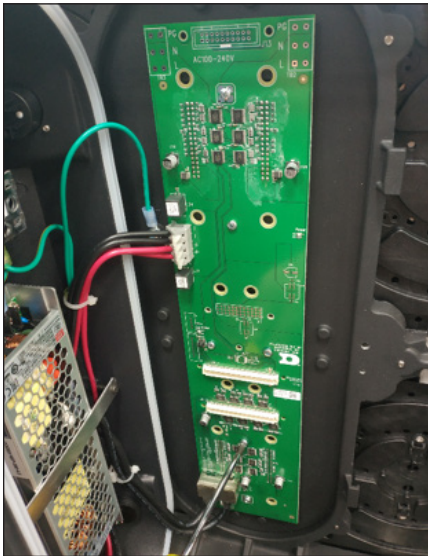

Figure 22: Remove Mounting Screws
5. Use a Phillips screwdriver to remove the four mounting screws. Refer to **Figure 22**.